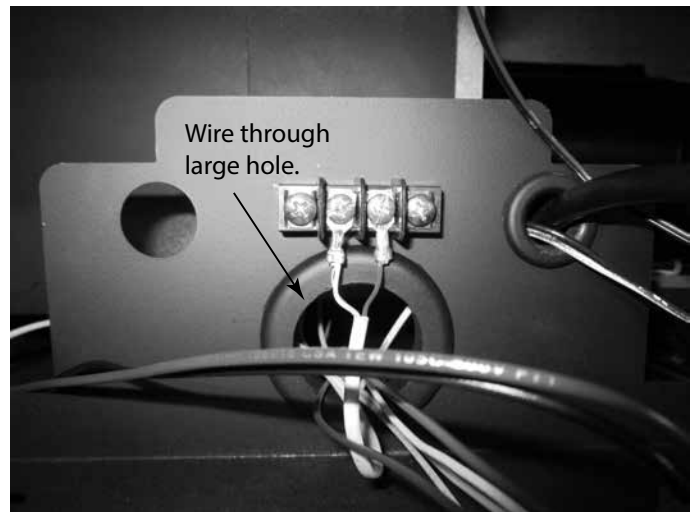

Figure 3.8
- Open the lower access panel on the front of the fireplace. Locate the end of the thermostat wire and run it in through from the back of the large hole and up to and attach it to the terminal block. See Figure 3.8.